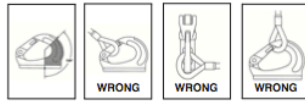

Figure 2 Figure 3 Figure 4 Figure 5
- Always make sure the hook supports the load. The load is to be applied within the range shown in Figure 2. The latch must never support the load (See Figure 3).